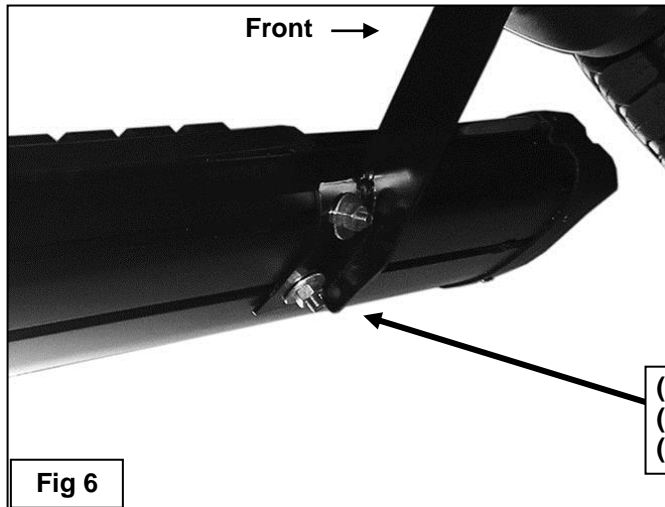

Fig 6
7. Line up the front of the Cutlass approximately 2" back, (or locate as desired), from the front wheel opening. Attach the Cutlass to the Mounting Brackets with (4) 8mm Flat Washers, (4) 8mm Lock Washers and (4) 8mm Hex Nuts, **(Figure 6)**. Do not tighten hardware at this time.